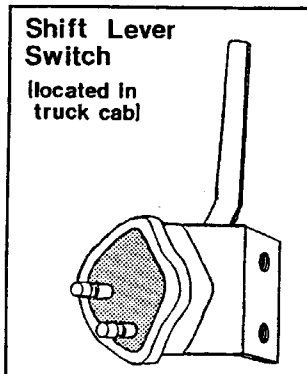

Fig. 4
Step 2: Remove the two wires from the switch on the airshifter (Fig. 4). Cut off the bullet connectors, and strip the insulation from the end of the wires as stated in step 1.